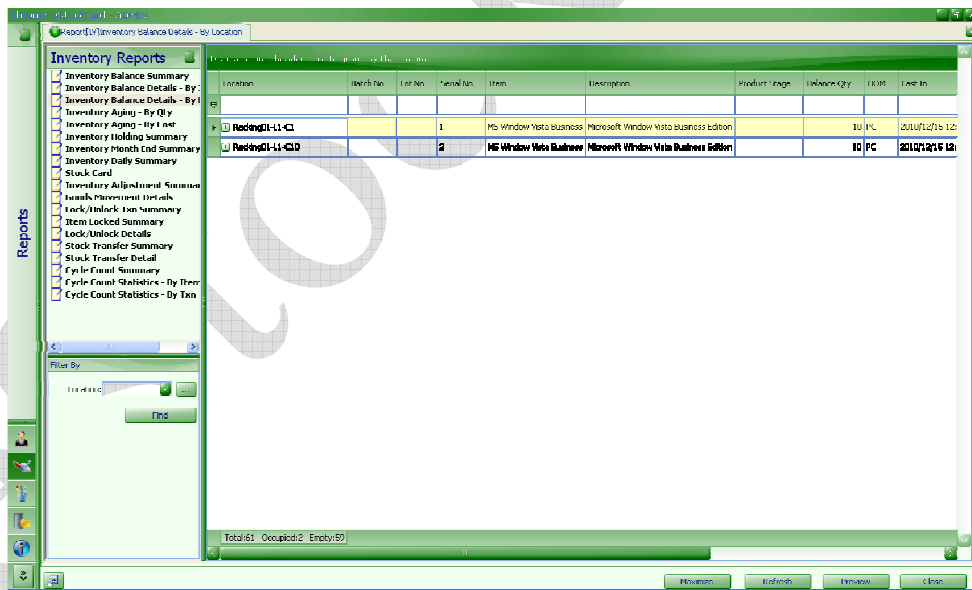

Fig. 41
Step 1 Click “Reports > Inventory > Inventory Details – By Location” (Fig. 41)